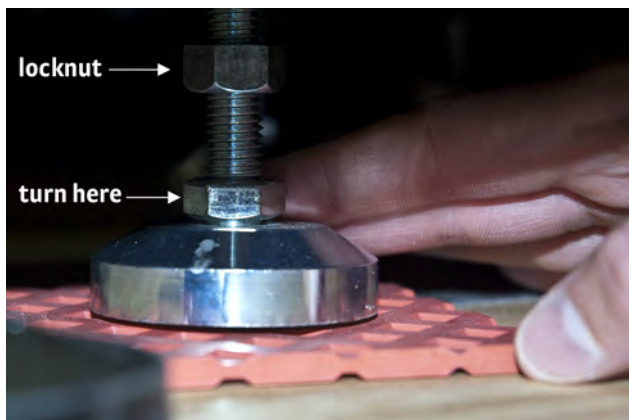

FIGURE 3-11 Left: Vibration isolation pads positioned under the CCR stand feet; Right: Remove the locking bolts and red spacing washers
1. Locate the four flexible red vibration isolation pads in the CRX-VF accessories box. Place them under the four feet of the CCR stand (FIGURE 3-11). Make sure the red pad for each foot is centered under the foot.
2. Locate the $\frac{3}{4}$ in wrench provided in the CRX-VF tool kit. Use it to lower the CCR stand feet until they just touch the red pads (FIGURE 3-11). Do not add tension to the feet at this step.
3. Using a $\frac{1}{2}$ in wrench or an adjustable wrench, remove the four bolts that lock the CCR stand to the probe station stand (FIGURE 3-11).
4. Using the $\frac{3}{4}$ in wrench, continue to lower the CCR stand feet until the weight of the CCR stand is removed from the four red spacing washers located between the CCR stand and outer probe station stand (FIGURE 3-11).
- Using the $\frac{3}{4}$ in wrench, lock the CCR stand feet locking nuts up against the bottom of the CCR stand (FIGURE 3-11).